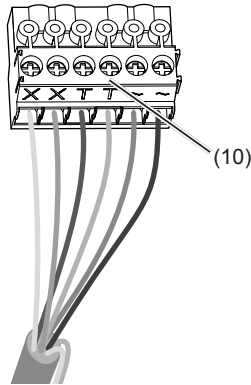

Figure 8: wired connection terminal block
- Pull off connection terminal block (10) from the audio insert.
- Connect the 2-wire bus cable to the terminals **XX** of the connection terminal block (Figure 8).
- Connect door release to the terminals **TT** of the connection terminal block (figure 8 and 9) if required.
- For call push-button backlighting and camera heating connect 12 V~ lead from the power transformer to the terminals **~** of the connection terminal block (Figure 8).